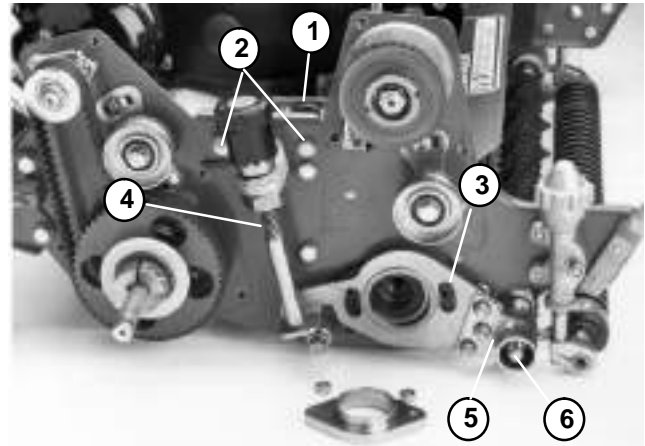

Figure 23
- C. Remove adapter (6), bearing (7) if necessary, spacers (5), and adapter ring (9) from the side plate (8).
7. On both sides of the mower (Fig. 23),
13. Pull side plate with the groomer adjuster and bearing housing from the grooming reel shaft and reel bearing housing (Fig. 23).